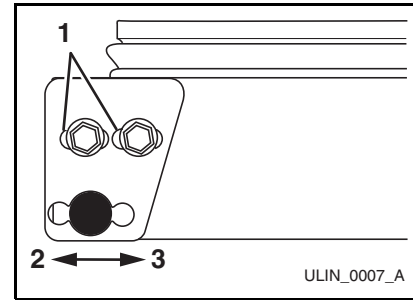

Figure 16
3. Turn the door upside down and inspect the hinge plate mounting holes (**Figure 16, 1**). Loosen but do not remove the two hinge plate screws.
- Your plate has slotted mounting holes (**Figure 16, 1**). Loosen but do not remove the two hinge plate screws.
4. If door edge opposite the hinges needs to move up, move plate toward outside of door (**Figure 16, 2**). If door edge needs to move down, move plate toward inside of door (**Figure 16, 3**). Repeat until top edge of door is parallel with top of cabinet and tighten screws securely (**Figure 16, 1**).